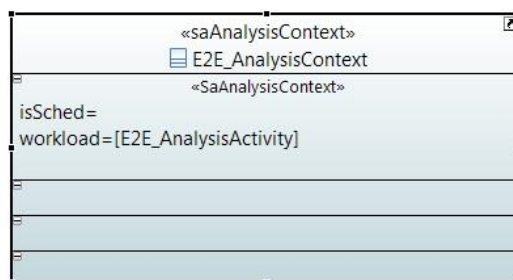

Figure 49 End2End Analysis Context
9. Set the <<SaAnalysisContext>> Workload property to refer to the analysis Activity modeled above (e.g. E2E_AnalysisActivity) (Figure 49)